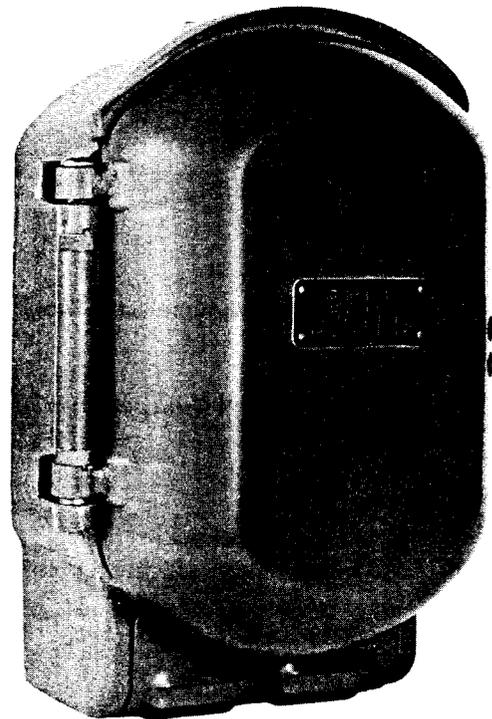

Fig. 1—325-Type Telephone Set (Outdoor)
1.01 The 325-type (MD) telephone set (Fig. 1) is intended for outdoor mounting on buildings, fences, poles, etc. These sets are replaced by the 525-type telephone sets which are similar. Connection information on the 325-type telephone sets will be found in Section 502-410-400.